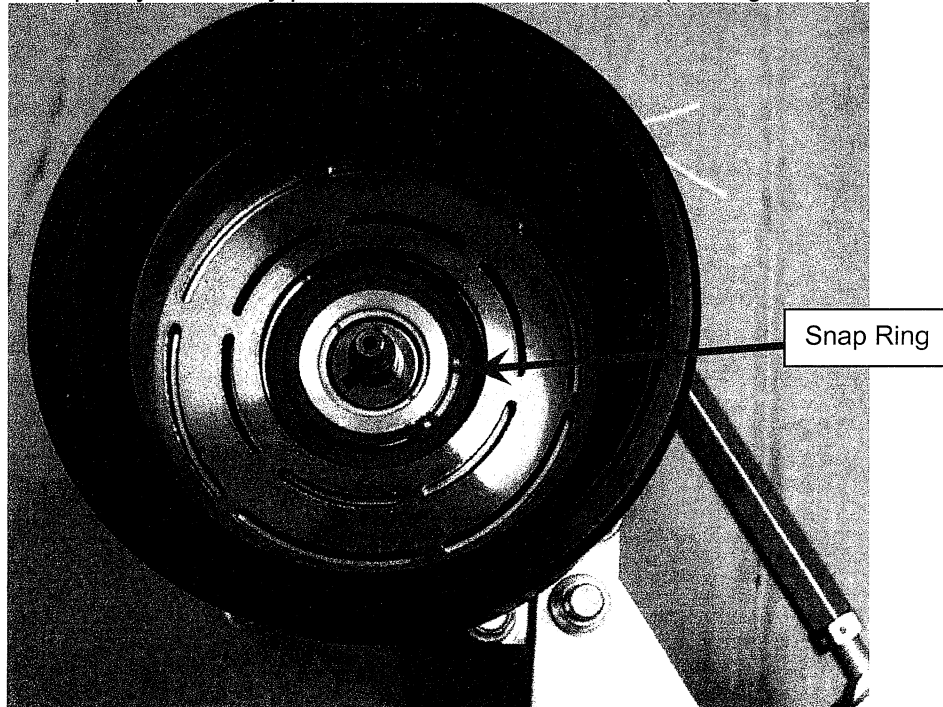

Figure 1.4
7. Remove the pulley retaining snap ring from compressor shaft assembly, and remove the compressor pulley assembly part number 427EC-3012-5. (See figure 1.4)